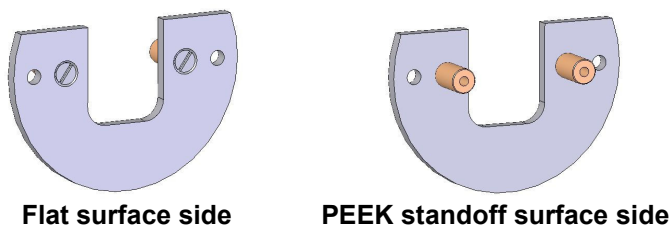

Fig 6. Alternative front cover plate to be used on the Electrical Heating Jacket when installing Spectroelectrochemical Cells
The Spectroelectrochemical Cells GS20900 Series can be installed into the Electrical Heating Jacket following the same procedure as that given for the Flow Liquid Cells. (See steps 1 to 9 – pages 9 to 11). However, an alternative front cover plate to the one supplied with the Electrical Heating Jacket (2) holds the Spectroelectrochemical Cell in position. (See Fig. 6 for alternative cover plate).